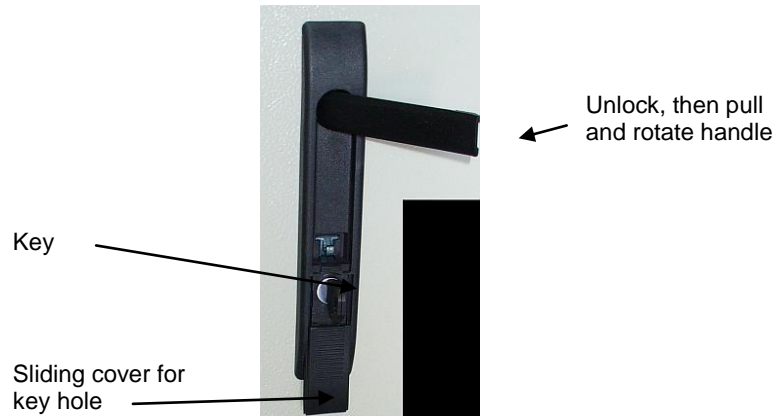

Figure 3 Enclosure Door Latch
- Lockable door latch: The door latch is opened using a key. See Figure 3 for details.